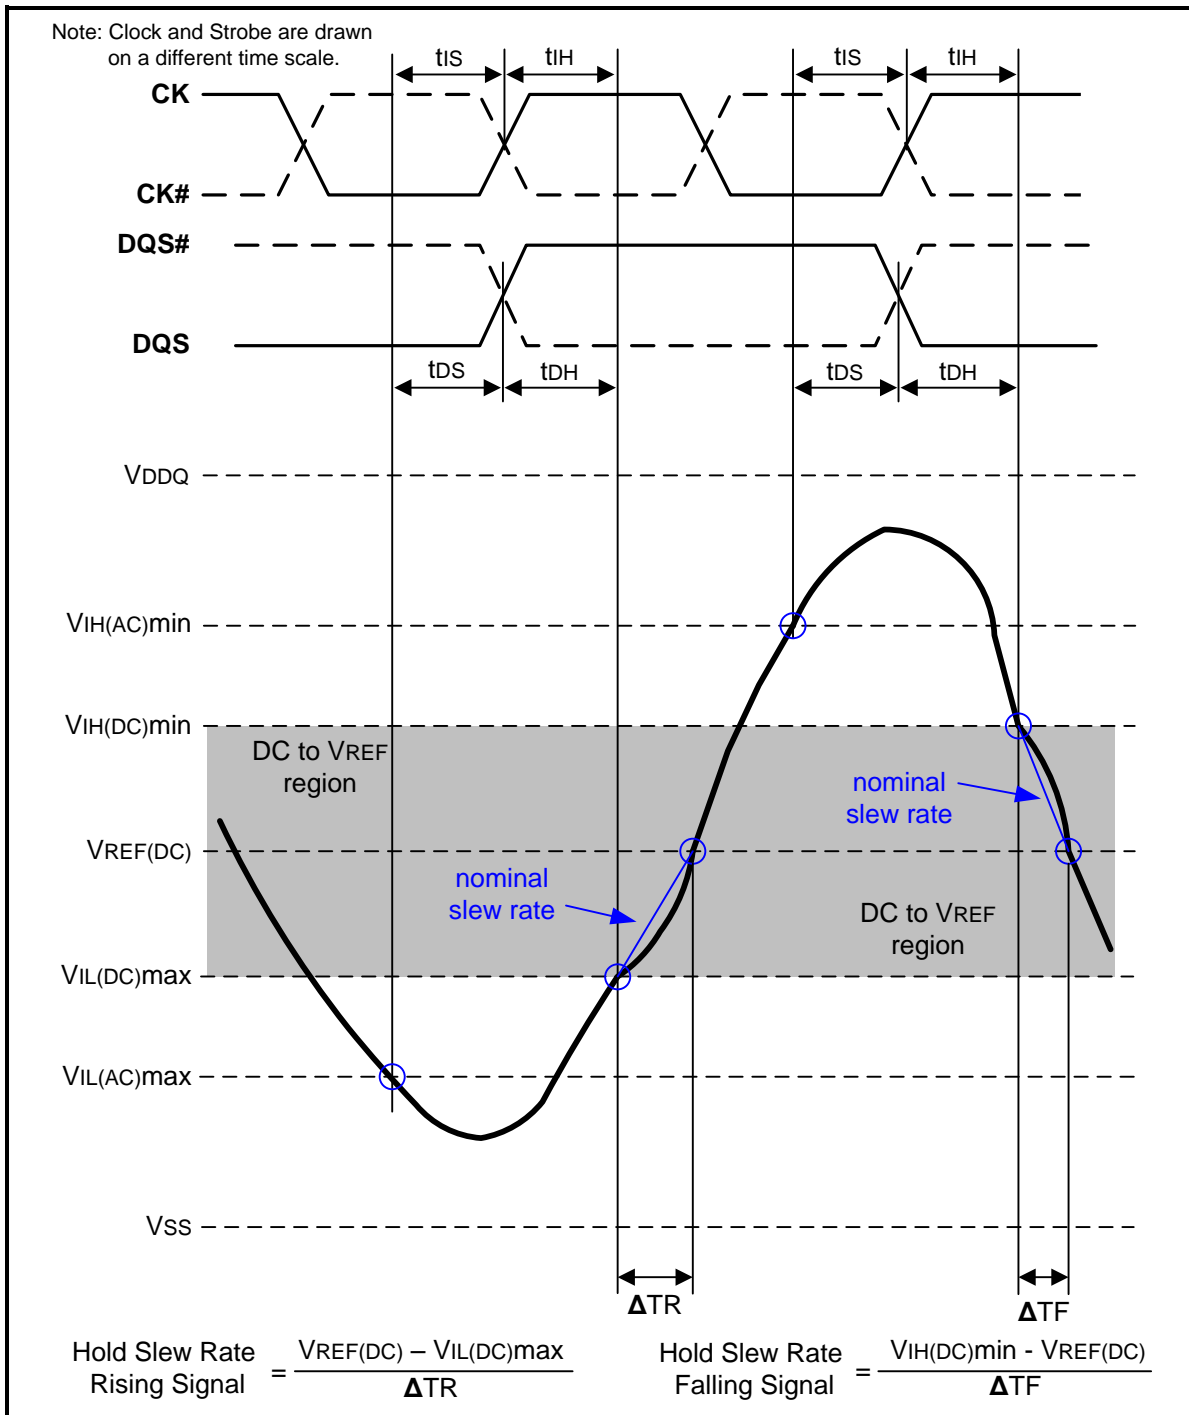
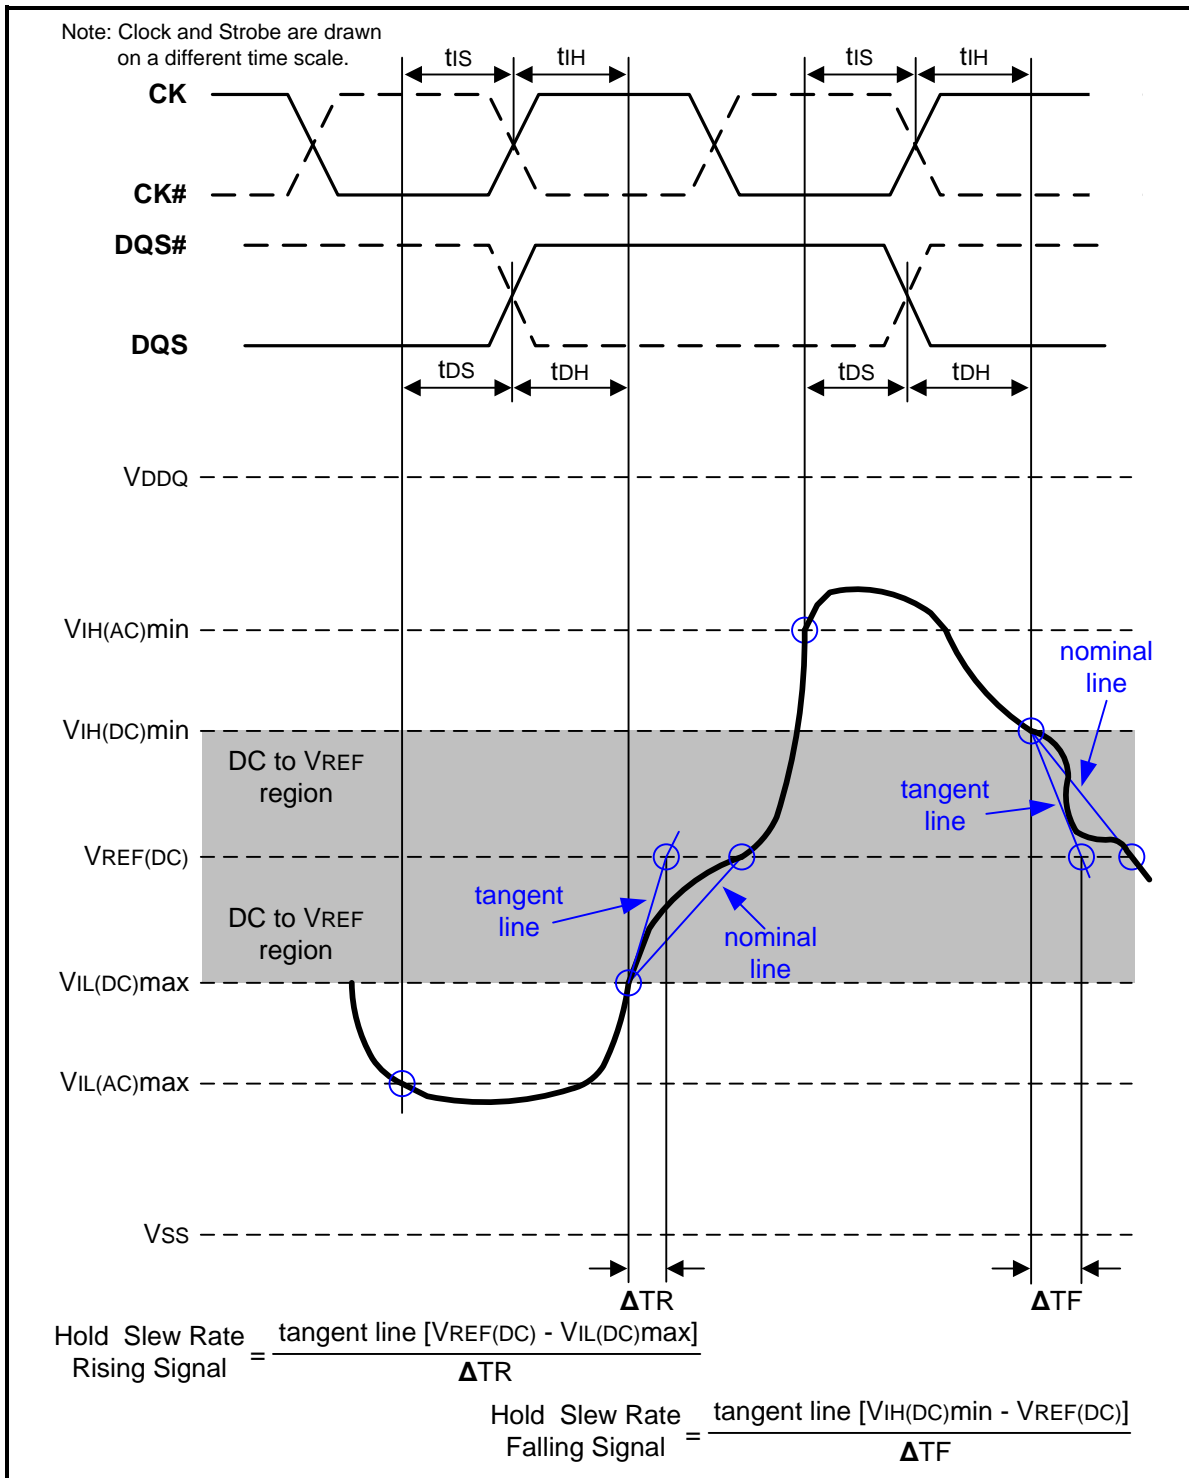

Figure 108 – Illustration of nominal slew rate for hold time t_{DH} (for DQ with respect to strobe) and t_{IH} (for ADD/CMD with respect to clock)
Figure 110 – Illustration of tangent line for hold time tDH (for DQ with respect to strobe) and tIH (for ADD/CMD with respect to clock)
Hold (t_{IH}) nominal slew rate for a rising signal is defined as the slew rate between the last crossing of $V_{IL(DC)max}$ and the first crossing of $V_{REF(DC)}$. Hold (t_{IH}) nominal slew rate for a falling signal is defined as the slew rate between the last crossing of $V_{IH(DC)min}$ and the first crossing of $V_{REF(DC)}$. If the actual signal is always later than the nominal slew rate line between shaded 'DC to VREF(DC) region', use nominal slew rate for derating value (see Figure 108). If the actual signal is earlier than the nominal slew rate line anywhere between shaded 'DC to VREF(DC) region', the slew rate of a tangent line to the actual signal from the DC level to $V_{REF(DC)}$ level is used for derating value (see Figure 110).
Hold (tDH) nominal slew rate for a rising signal is defined as the slew rate between the last crossing of VIL(DC)max and the first crossing of VREF(DC). Hold (tDH) nominal slew rate for a falling signal is defined as the slew rate between the last crossing of VIH(DC)min and the first crossing of VREF(DC) (see Figure 108). If the actual signal is always later than the nominal slew rate line between shaded 'DC level to VREF(DC) region', use nominal slew rate for derating value. If the actual signal is earlier than the nominal slew rate line anywhere between shaded 'DC to VREF(DC) region', the slew rate of a tangent line to the actual signal from the DC level to VREF(DC) level is used for derating value (see Figure 110).